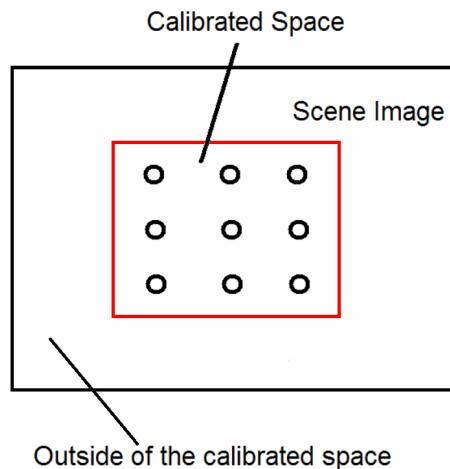

Figure 4-8. Calibrated Space Viewed in the Overlay Display
- Click on the depth correction mode (button) on the scene camera application. If a calibration has been successfully done, a red box will be displayed on the video screen representing the calibrated space (see Figure 4-8). The drawing of this box can be toggled on/off by clicking on the “Hide Calibrated Area” box.
- Specify a fixation target at a particular depth within the calibrated space and ask the participant to fixate on the target precisely. While the participant is fixating on the target, move the display PC mouse, place the cursor over the fixation target and click the left mouse button **once only** (see Figure 4-8). One correction data point will be added with each mouse click.